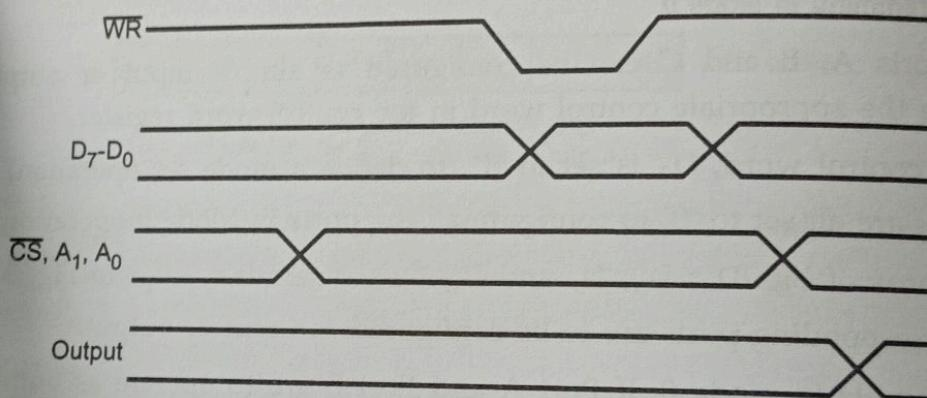

Fig. 3.4.7 Timing diagram for mode 0 output mode
- The status of bits D₄, D₃, D₁ and D₀ then determine (refer to Fig. 3.4.7) whether the corresponding ports are to be configured as input or output.
Output mode : Fig. 3.4.7 shows the timing diagram for mode 0 output mode.